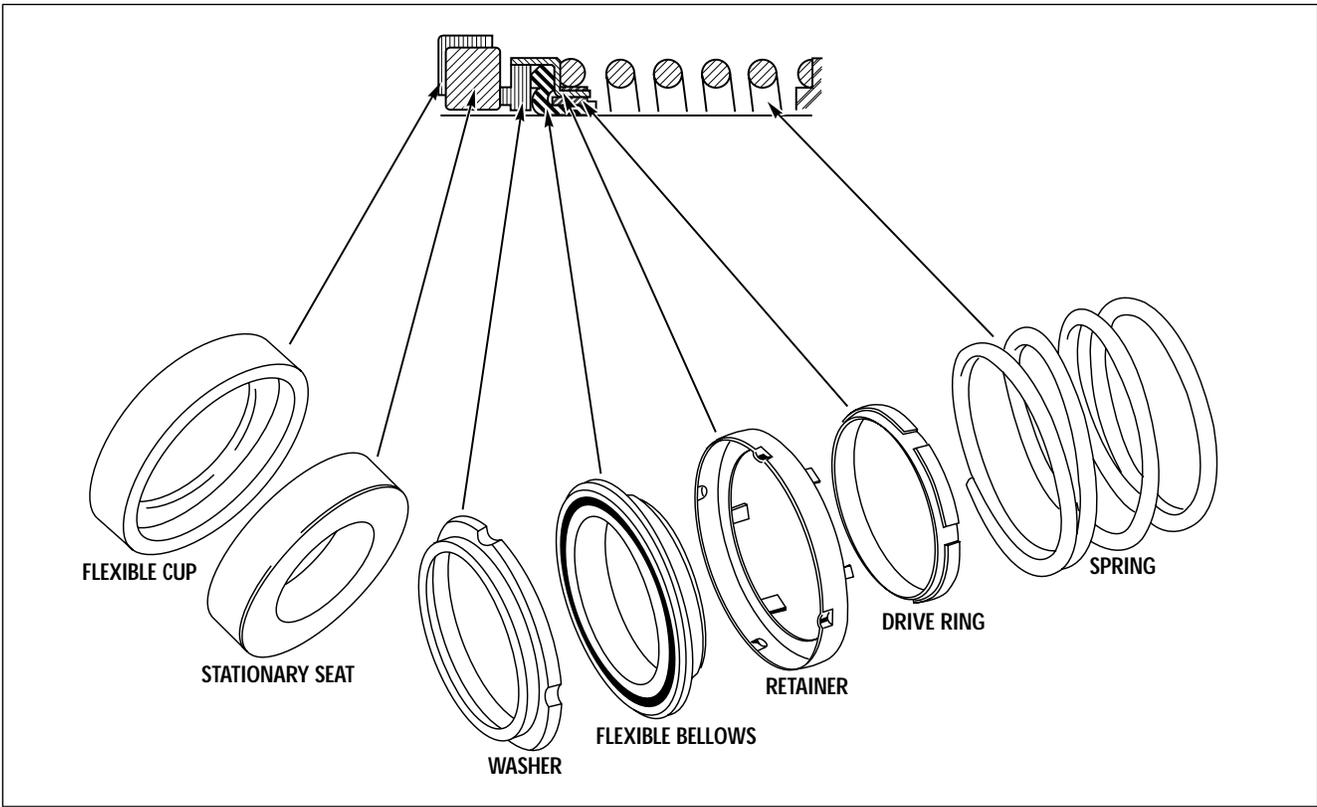

Figure 1. Mechanical Seal
The mechanical seal (see Figure 1) is a precision product and must be treated as such. During removal, great care must be taken to avoid dropping any part of the seal. Take particular care not to scratch the lapped faces on the washer or the sealing seat. If any wear of the seal faces is noted, it is recommended to replace with a new seal during reassembly.
1. Press grease seals (51) into frame (57). (344A)
2. Press bearings (53 and 54) onto shaft (55). Snap retainer ring (52) into place. (344A)
3. Slide shaft (55) and bearings (53 and 54) into frame (57) until retainer ring on bearing (54) comes in contact with frame (57). Place "O" ring (oil lubed only) (50) in place. (344A)
4. Fasten bearing cap (49) in position with capscrews (48). Insert grease seals (51A) and position slingers (47 and 47A) on the shaft. (344A)
5. The mechanical seal (27) (see Figure 1) cannot be installed as an assembly. It is necessary to have the seal seat properly in place in bracket (35) before the balance of parts can be added.
7. If nameplate (34) was removed, install and attach with screws (33).
8. Wipe the sealing faces of the seat and seal washer clean. Replace pin (61) in sleeve if it was removed during disassembly. Apply a film of liquid dishwashing detergent to the washer and bellows of the seal and slide the remaining seal parts onto the sleeve making sure the washer is seated against the seal seat. Check the proper sequence of assembly as indicated in Figure 1. The shaft sleeve with the seal rotating assembly on it may now be replaced onto the motor shaft. Spring tension will probably prevent the sleeve from remaining in position axially until the impeller is locked against it.
9. Press wearing ring(s) (7 and 16) in casing (6) and bracket (35). Rings should not be hammered into place. Use a press, or clamp the parts in a bench vise, using wooden blocks to protect the rings. It may be necessary to pin or dowel the rings after assembly if the insert or casing has had rings replaced before, since each reassembly can stretch or tear metal and thereby loosen the fits. If the facilities are available, it is good practice to take a very light finish cut or to ream the inside diameter of the casing rings after pressing to restore roundness. When rings are pressed, they may get squeezed out of shape.
10. Coat the mating surfaces of impeller wear ring(s) (optional - 14 and 15) and impeller (11) with Loctite sealant grade 271. Replace wear rings, using the same care as for the case wear ring(s). If the rings are to be trued on a lathe, do not clamp the impeller so tightly that it is permanently distorted.
11. Carefully replace gasket (10) on motor end of impeller. Assemble key (12) and impeller (11) to motor shaft. Secure impeller with gasket (9B), washer (9A), capscrew seal (9C) and impeller screw (9).
12. Install the two pipe plugs (4) in the pump casing. Position the gasket (8) and casing (6) against the motor bracket and secure with screws (5). On Model 342A pumps position gasket (72) and set pump assembly in place. Tighten pump to base (73) with capscrews (39).
13. Replace all relief, cooling, flushings, or drain lines from the pump including compression connections (1 and 2) and tubing (3). Replace all grease fittings pipe plugs, tube vents and oiler assembly for oil lubricated units. Connect discharge piping and suction piping, if required. Make sure to install gaskets on the flanged connections. On Model 342A pumps replace plugs (74 and 75) in base elbow (73).